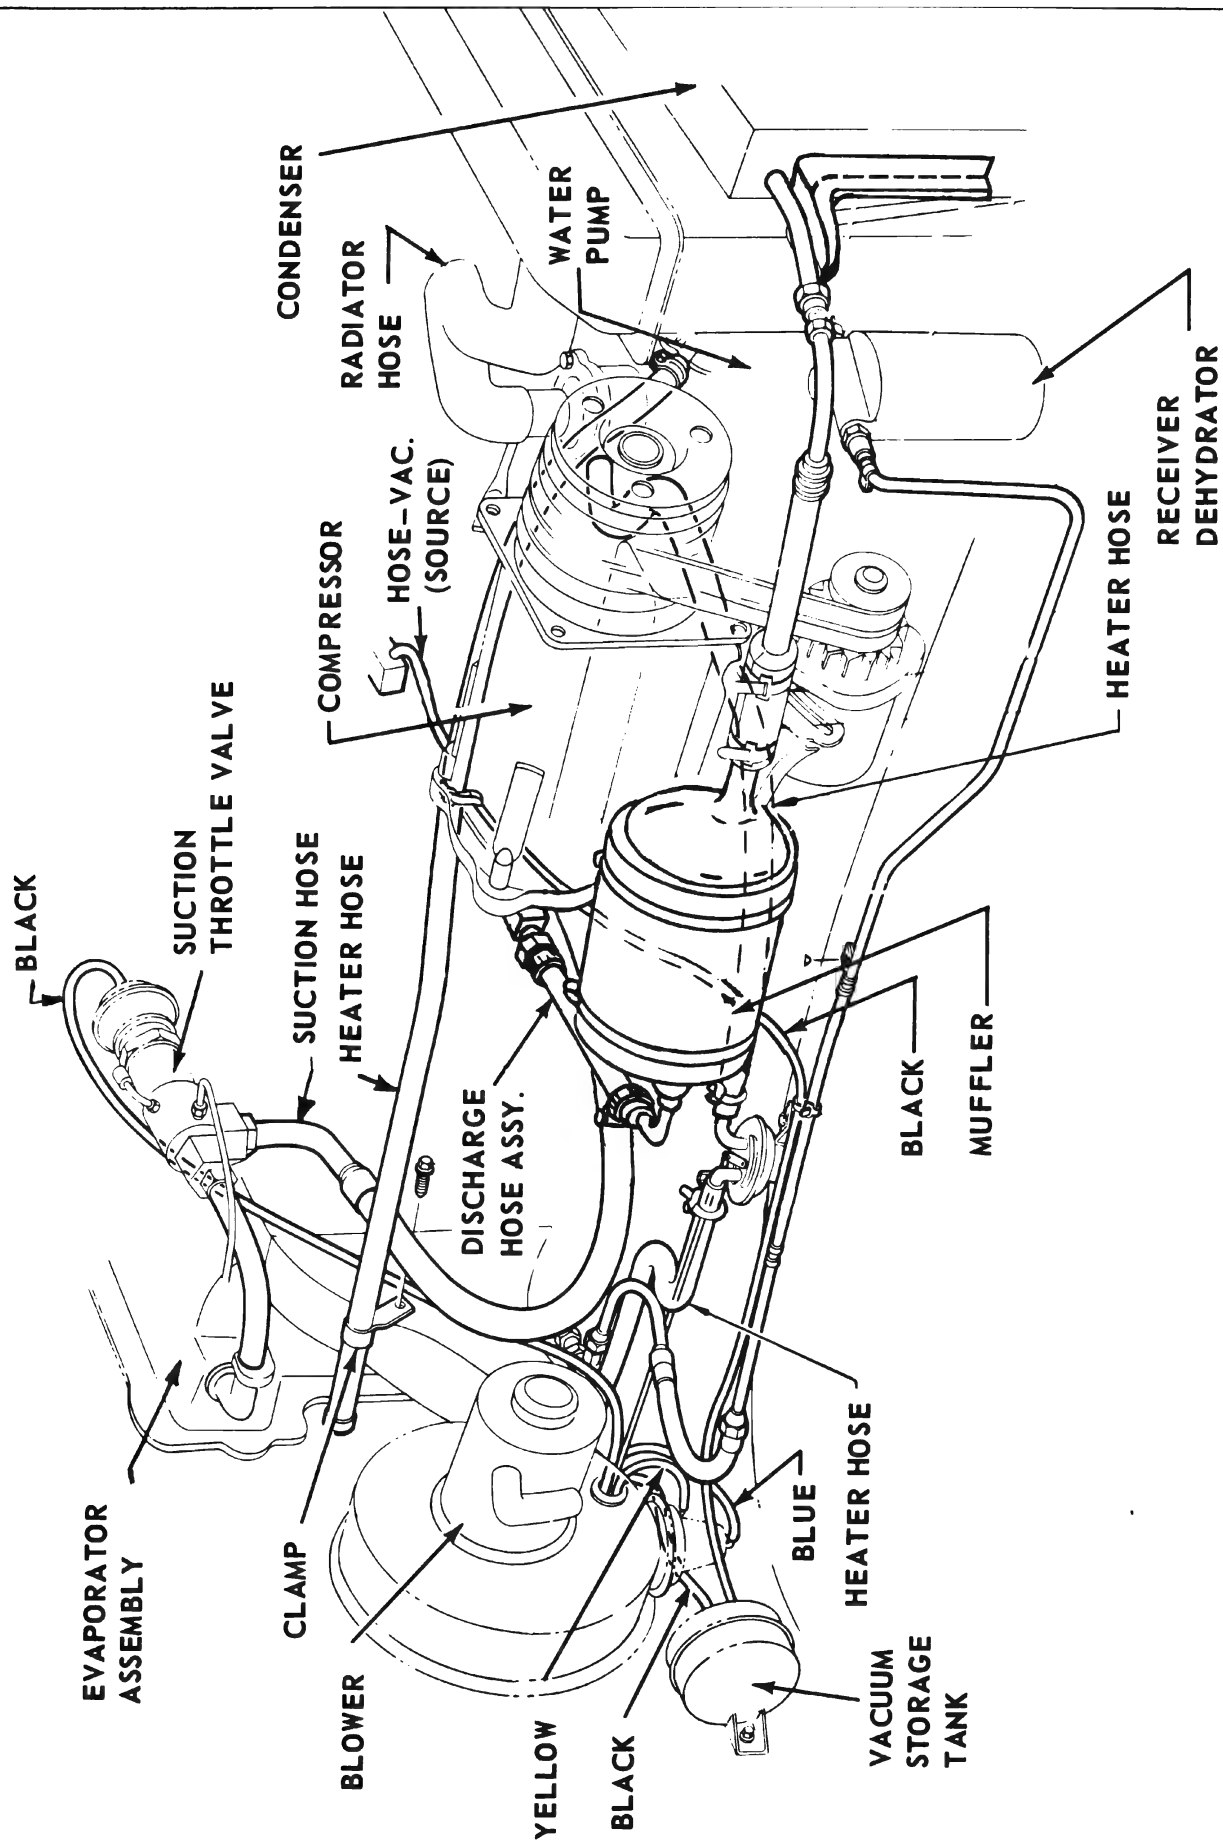

Figure 11-48—Air Conditioner Installation - 4400, 4600 and 4800 Series
Both the 4400, 4600 and 4800 Series system and the 4700 Series system are similar in that the same blower is used to force air thru the air conditioner ducts and/or the heater ducts simultaneously. In addition, the refrigerating components of the heater-air conditioner system are all located in the engine compartment. They are namely the (1) compressor, (2) condenser, (3) receiver-dehydrator, (4) evaporator, (5) suction throttle valve, (6) expansion valve, and (7) muffler (see figures 11-48 and 11-49).